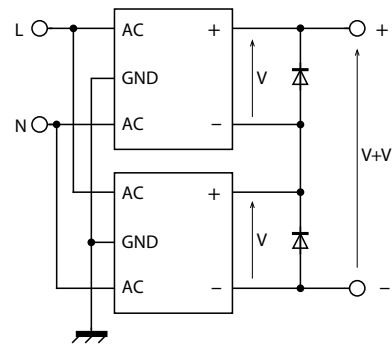
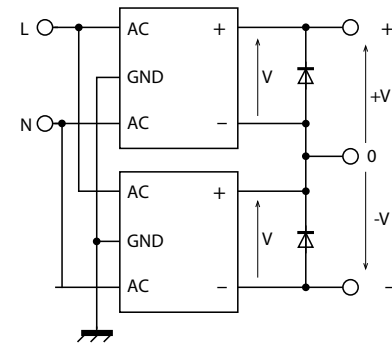

Figure 2
Figure 3
**CONNECTION IN SERIES:** all Cabur power supplies can have their outputs connected in series to double the voltage (see fig. 2) or to obtain dual voltage output, for example with  $\pm 12$ V or  $\pm 24$  V (see fig. 3).